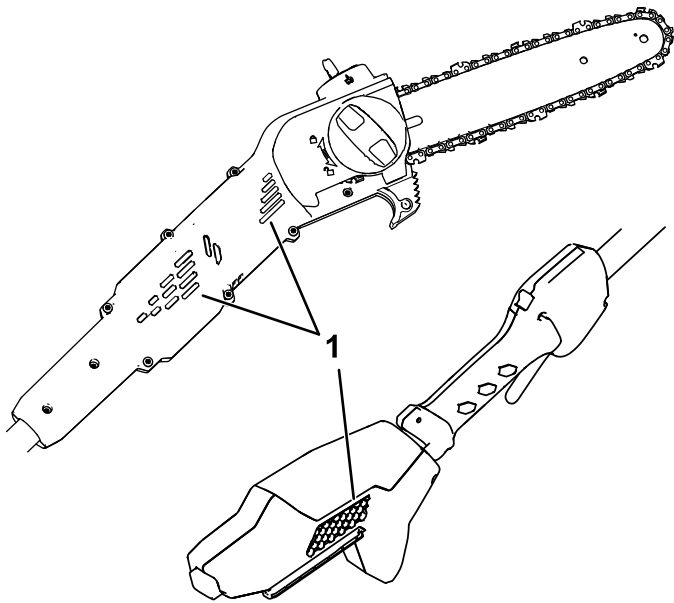

Figure 8
1. Ensure that the vents on the pole saw are free from dust and debris (Figure 8).